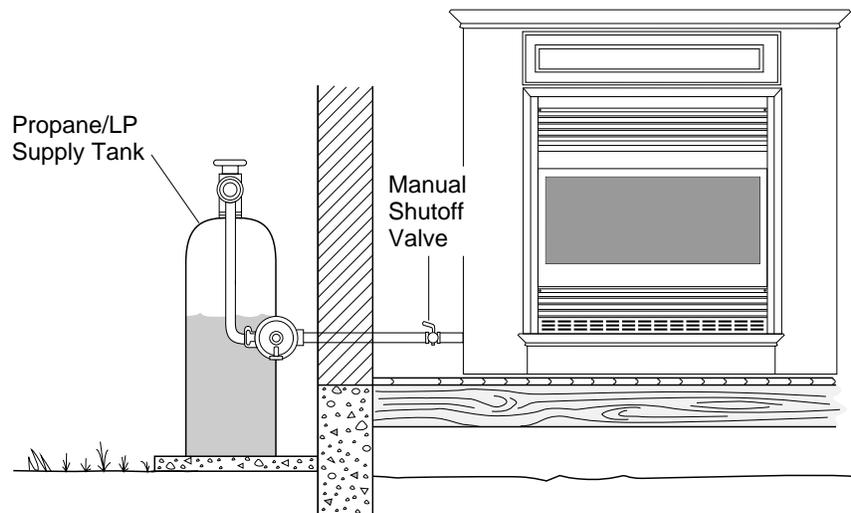

Figure 27 - Checking Gas Joints Shown with Optional Mantel
3. Check all joints from propane/LP supply tank to manual shutoff valve (see Figure 27). Apply mixture of liquid soap and water to gas joints. Bubbles forming show a leak.
4. Check all joints from manual shutoff valve to thermostat gas valve (see Figure 27). Apply mixture of liquid soap and water to gas joints. Bubbles forming show a leak.